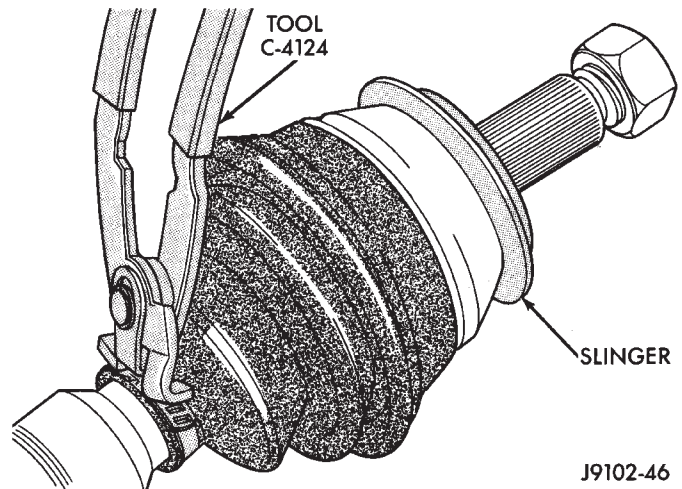

Fig. 11 Compressing Clamp Bridge
(9) Compress the clamp bridge with Remover/Installer C-4124. Squeeze the tool handles to complete the tightening of the clamp (Fig. 11). **Care must be exercised when using the tool to avoid cutting through the clamp bridge or damaging the boot.**
(12) Verify that the boot is not twisted and that it is correctly positioned on the housing.
(13) Install the large ladder clamp on the boot and secure as done with the small ladder clamp (Fig. 11).